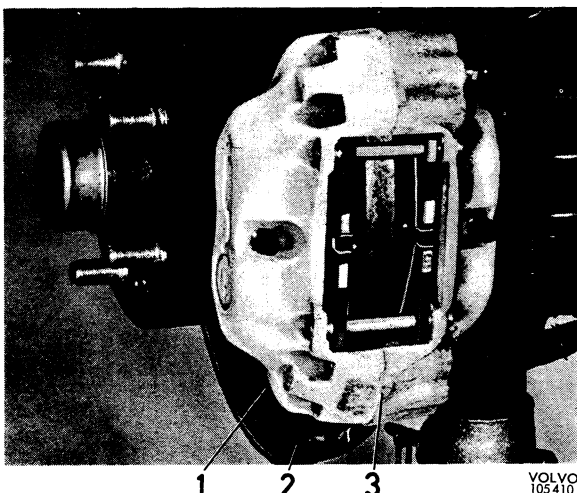

Fig. 5-7. Brake components, front wheel
Fig. 5-7 shows how the brake components are located at the front wheels. The disc (1) is of cast iron and is attached to the wheel hub with which it rotates. The cover plate (2) protects the disc from dirt.